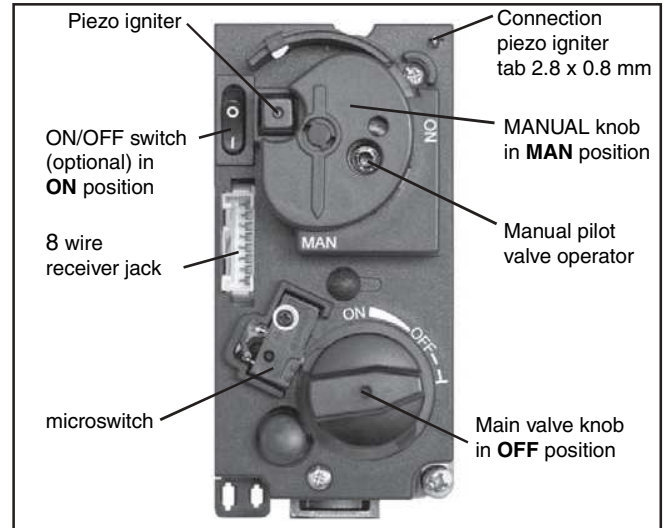

Fig. 5-1 Combination control, cover
When turning main valve knob, do not force. Knob has a slip clutch that clicks until the end stops are reached. This allows for manual flame height adjustment as well as adjustment to pilot standby position (see Fig. 5-1).
9. Fully push down manual pilot valve operator (using a small bladed screwdriver or similar) and hold in, to start pilot gas flow (see Fig. 5-1).